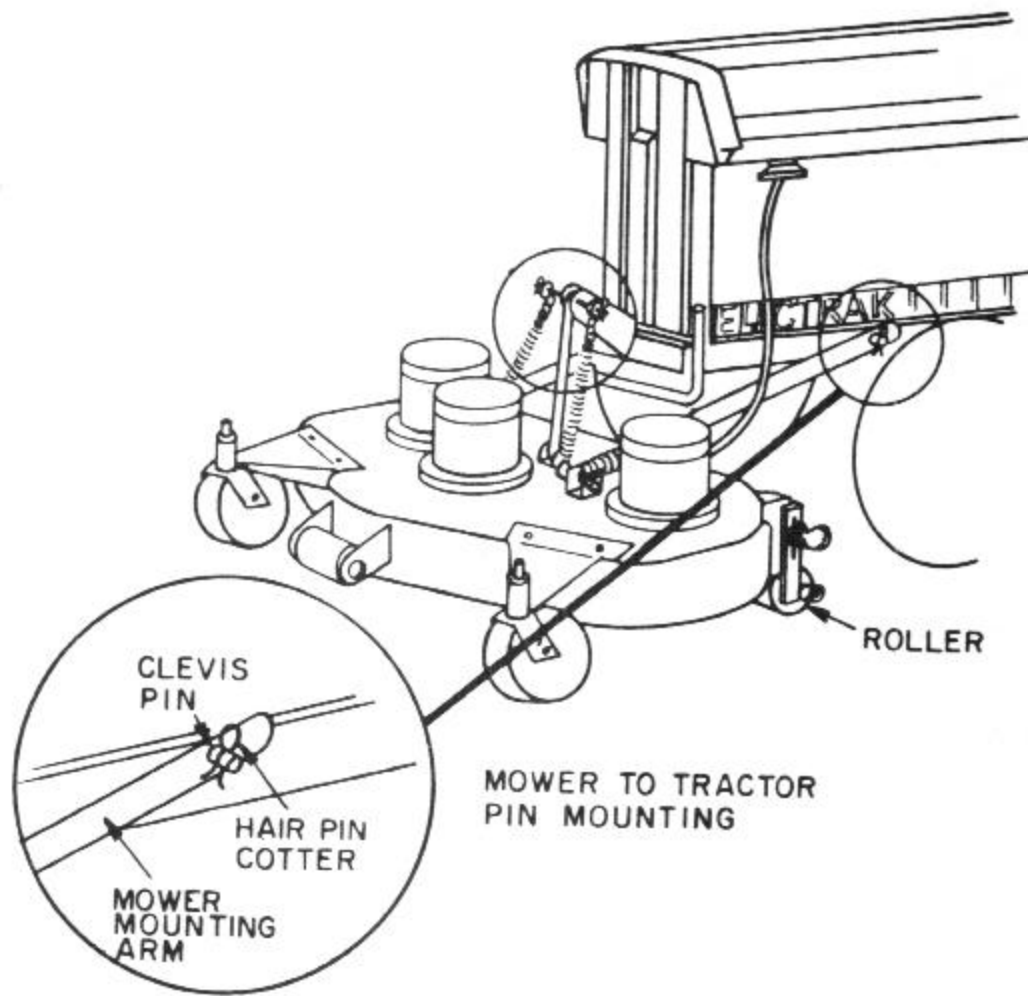

Figure 10
To attach the mower, refer to Figure 10 and take the following steps:
2. Secure the mounting arms to the tractor frame with the clevis pins and hair pin cotters supplied with the mower. (See insert Fig. 10). Installation is eased by pushing the clevis pin back in flush to the frame side, then lining up the hole in the mower arm and pushing the pin through the arm.